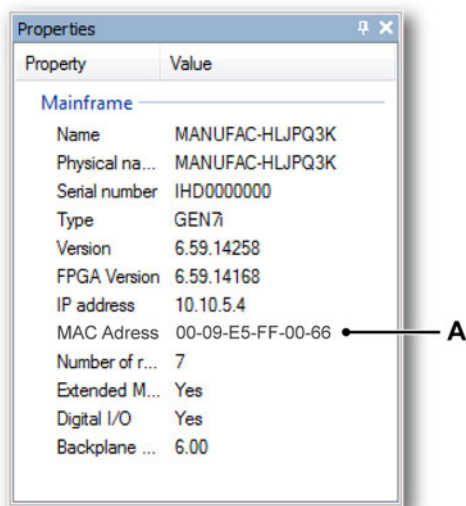

Figure J.16: Properties window in Perception
- 3 Enable the **Properties Window** (see Figure J.16); this can be found in the Perception “Windows” menu.